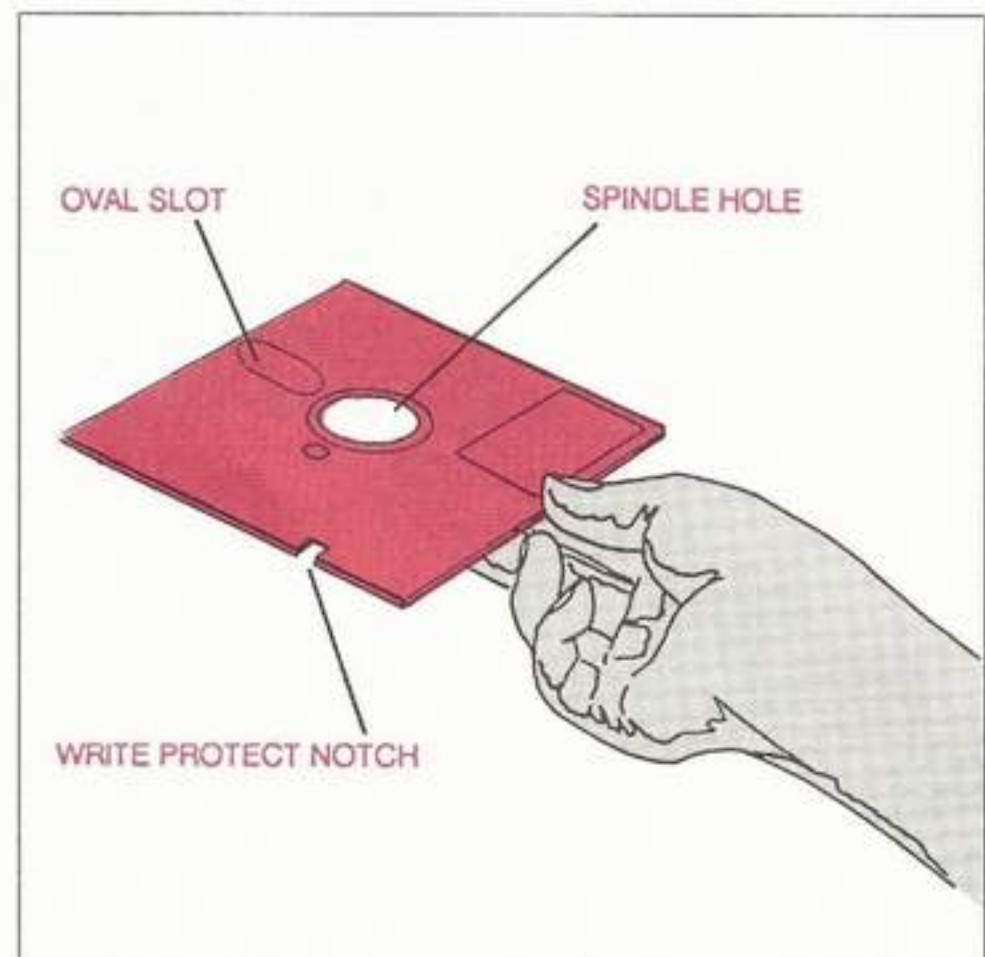

Fig. 12: Grasping a Floppy Disk
- c. Locate the working copy of the DOS System Disk, and remove it from its protective sleeve. Grasp the disk, as shown in Fig. 12, by the label on the disk.